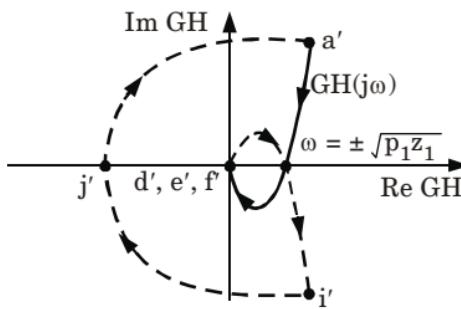

Fig. 4.13.1.
4. Path \overline{def} maps into the origin, and \overline{ija} maps into on semicircle at infinity. The resulting plot is shown in Fig. 4.13.1.